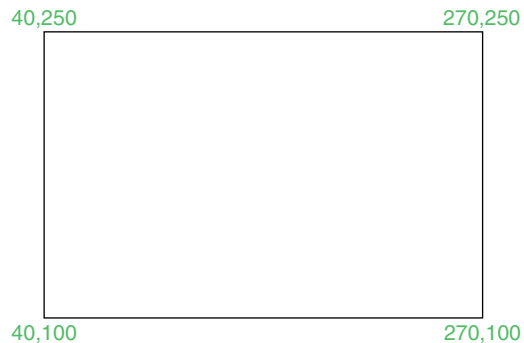

Fig. 2.28 Exercise 1
- Using the **Line** tool construct the rectangle in Fig. 2.28.